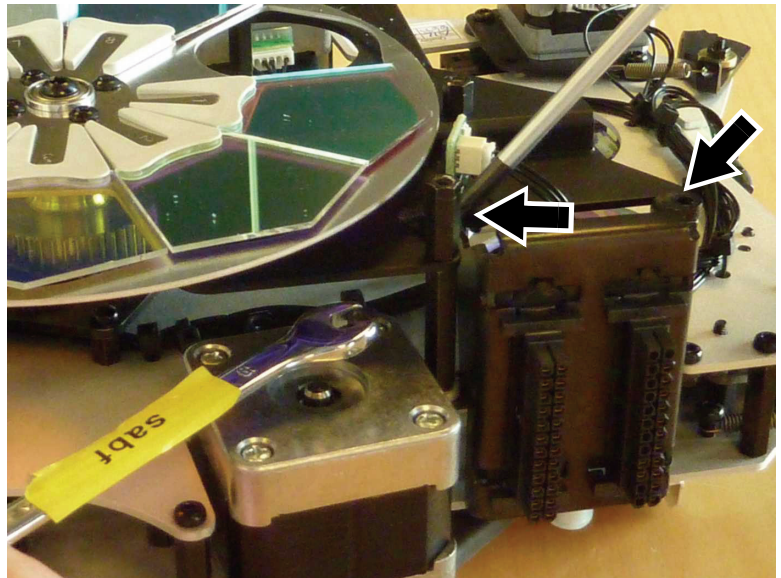

Figure 5
6. See Figure 5. Remove the two screws (arrowed) that fasten the inner aperture plate to the multi-connector mounting bracket